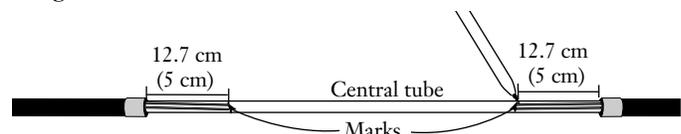

Figure 24
**6.16** Place marks 12.7 cm (5 in.) from the end of each side of the exposed section of central tube with a permanent marking pen (Figure 24). *These access starting and ending mark locations will vary depending on the hardware being utilized.*